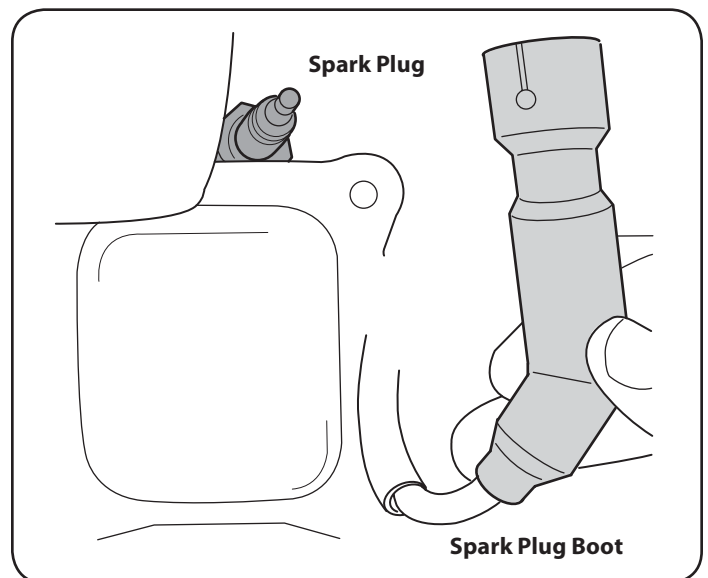

Figure 23
- Remove the spark plug boot and use a spark plug wrench to remove the plug. See Figure 23.